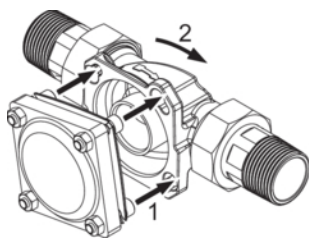
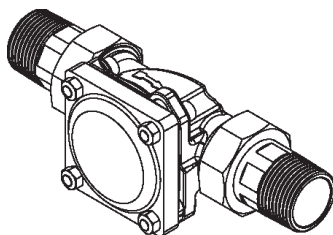

Fig. 3: Attach and engage appliance
Fig. 4: Connection of appliance engaged
1. Insert the heads of the four flange screws through the bayonet holes on the rotary flange fitting (see Figure 3).
2. Turn the appliance in clockwise direction up to the stop (see Figure 3 and Figure 4).